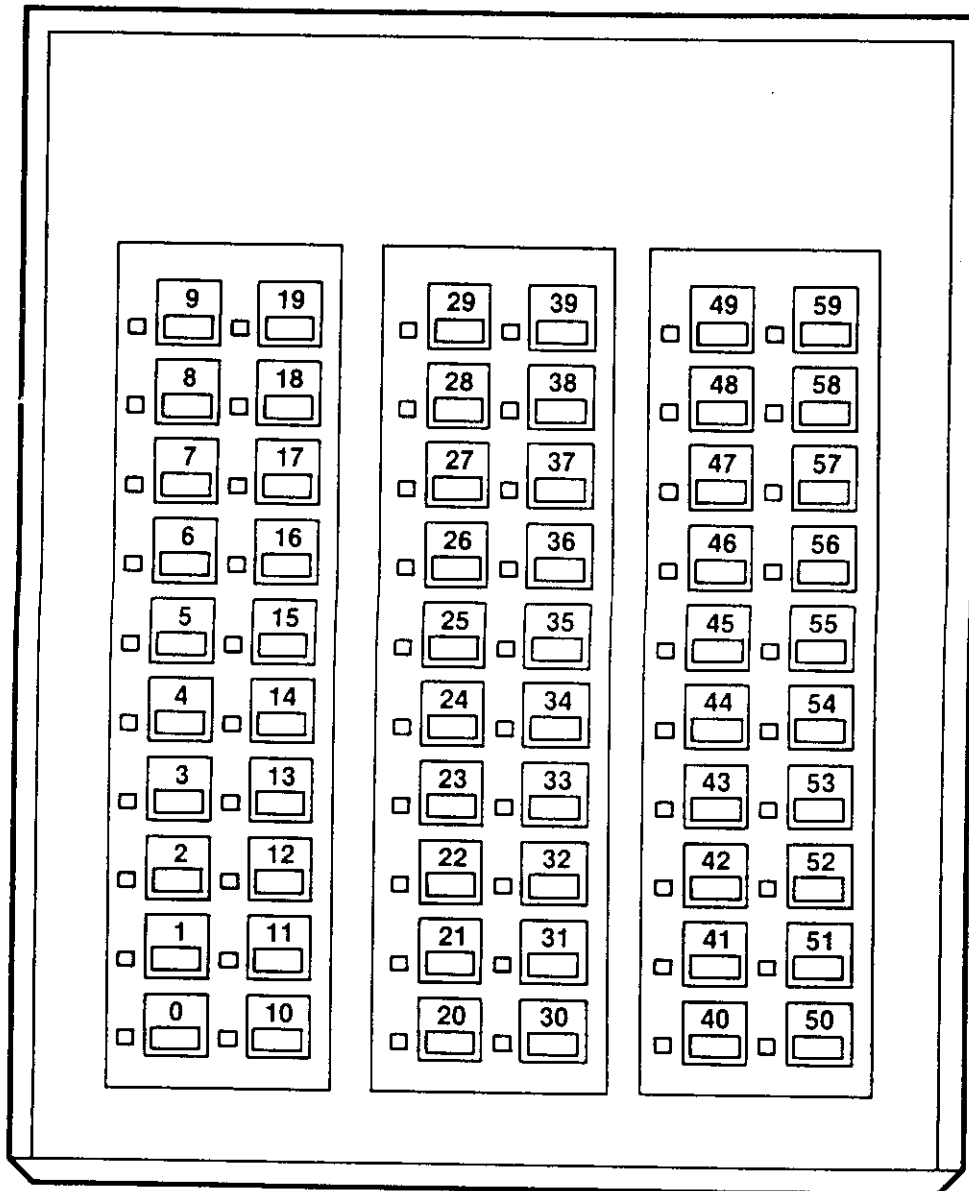

FIGURE 1—DSS CONSOLE BUTTON NUMERICAL ARRANGEMENT
KEY (DSS Button)—Defines the various buttons on the DSS console. Each button is assigned either to a specific DN (for fixed operation), to a two-digit number (for switched operation), or to a specific feature. (See Figure 1 for the numerical arrangement of DSS console buttons.) When assigning or deleting data from DSS console buttons, data can be assigned/deleted in groups. Additionally, data that is assigned to one DSS console may be duplicated either entirely or partially (either specific buttons or columns of buttons) onto another DSS console by utilizing range programming functions. To program a DSS console button, perform one of the following operations:
- 1) Assign a DN: For a fixed button, enter the number of the button being defined (m = 0 ~ 59 [see Figure 1]), followed by a space, *, and the extension DN (N, NN, NNN, or NNNN). For a switched button, enter the number of the button being defined, a space, #, and the last two digits of the extension DN (NN). The digit preceding these lower digits will be determined by Hundreds Group buttons.